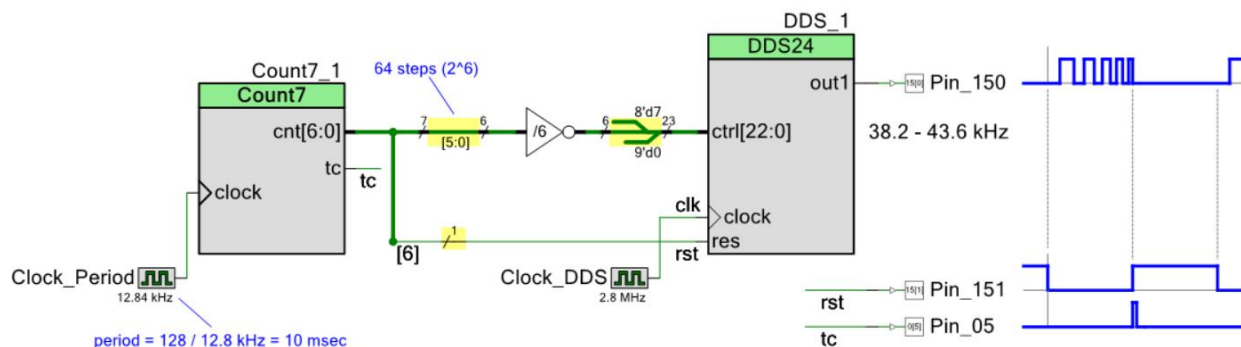

Figure 10. Hardware chirp generator using BusConnect.
All-hardware chirp (frequency sweep) generator for ultrasound range detection using BusConnect is shown on Figure 10. It produces a burst of the frequency sweep between 38 kHz to 43 kHz in 5 ms for PZT excitation, followed by the 5 ms of quiet period for detection of the reflected signal [3]. The number of ramp steps ($N=2^6$) is controlled by the *inp_width*. The ramp starting and ending frequencies are controlled by the MSB constant ($8 = 2^b00000111$), *LSB_width* (9), and DDS clock (2.8 MHz):